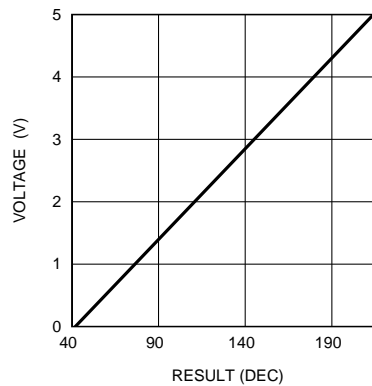

Figure 25. LED Test Results vs. Measured Voltage
- This is used to store the LED test result. Read-only register. LED test ADC's least significant bit corresponds to 30 mV. The measured voltage V (typ.) is calculated as follows: $V = (\text{RESULT}(\text{DEC}) \times 0.03 - 1.478 \text{ V})$. For example, if the result is 10100110 = 166(DEC), the measured voltage is 3.50V (typ.). See Figure 25 below.